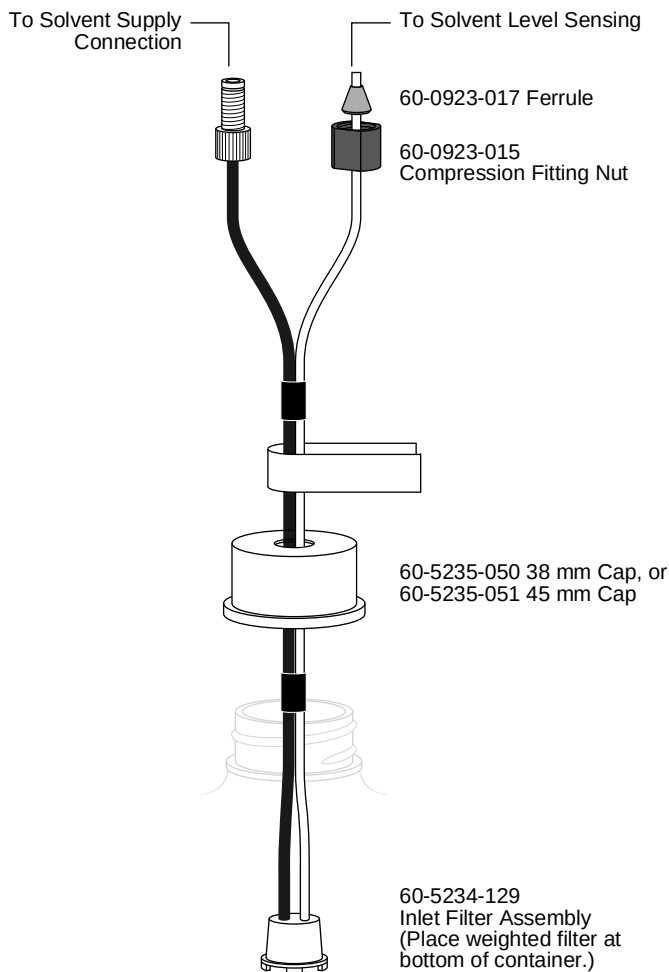

Figure 2-2 Recommended solvent connection
1. Connect the solvent source to the system's Solvent Inlet ports. Figure 2-2 shows the recommended connections when the user-supplied solvent container has a 38 or 45 mm opening (GL 38 or GL 45).
2. Slide the nut and ferrule onto the tubing as shown in Figure 2-2.